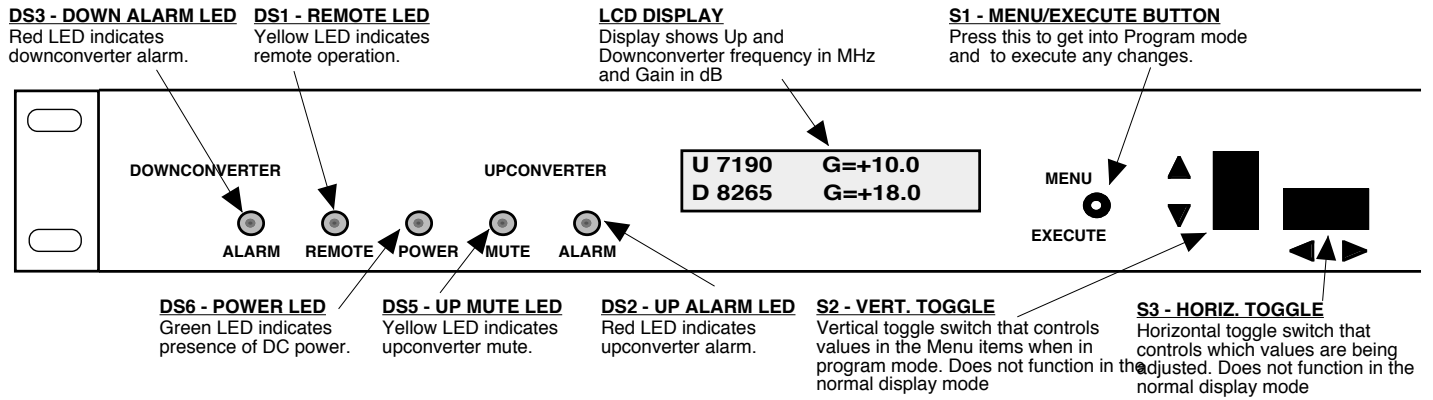

Figure 2.2 Model 3117-7283#-1200 Front Panel Controls and Indicators
Figure 2.2 shows the input and output connectors on the rear panel.
- 5.) Be sure DS6 (green, DC Power) is on and DS2 (red, Alarm) is off (Figure 2.2).
- 5.) Be sure DS6 (green, DC Power) is on and DS3 (red, Alarm) is off (Figure 2.2).
2.5.1 Functions - This section describes operation of the front panel controls. There are three operator switches, the LCD display and alarm indicator LEDs. All functions for the equipment are controlled by these components. The functions are (see Figure 2.2):
Alarm indications appear on the LEDs (see figure 2.2).